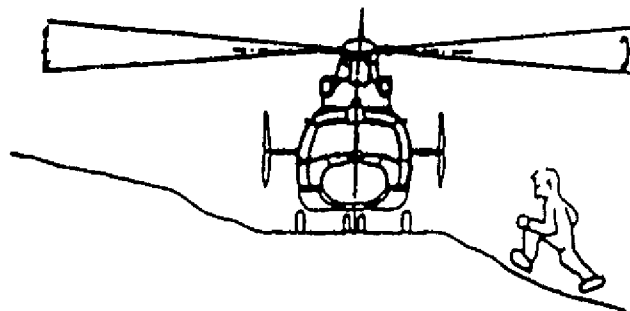

Fig. 5 Access to and moving away from the helicopter on an inclined area
- 3) When the helicopter is on an inclined area, ride in or get off from the lower side.(Fig. 5)